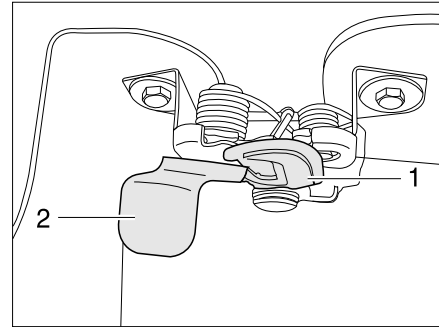

Fig. 34 Release knob on the outside of the bonnet
- Reach under the bonnet with one hand and actuate the safety hook (Fig. 34,1). Do this by reaching behind the plate (Fig. 34,2) and pulling it forward.